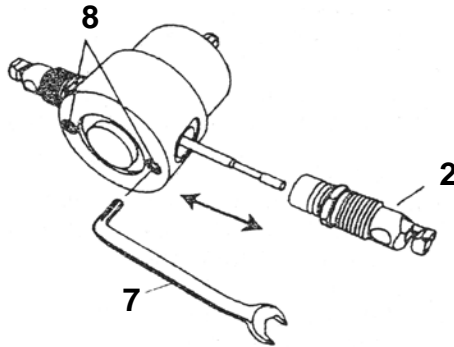

Fig. 4
1. Use the Allen key (7) to loosen the two fixing screws (8) of the cutting shaft holders (2) and remove the cutting shaft holders (fig. 4).
2. Carefully remove the coil spring from the cover (9). Then remove the cover.